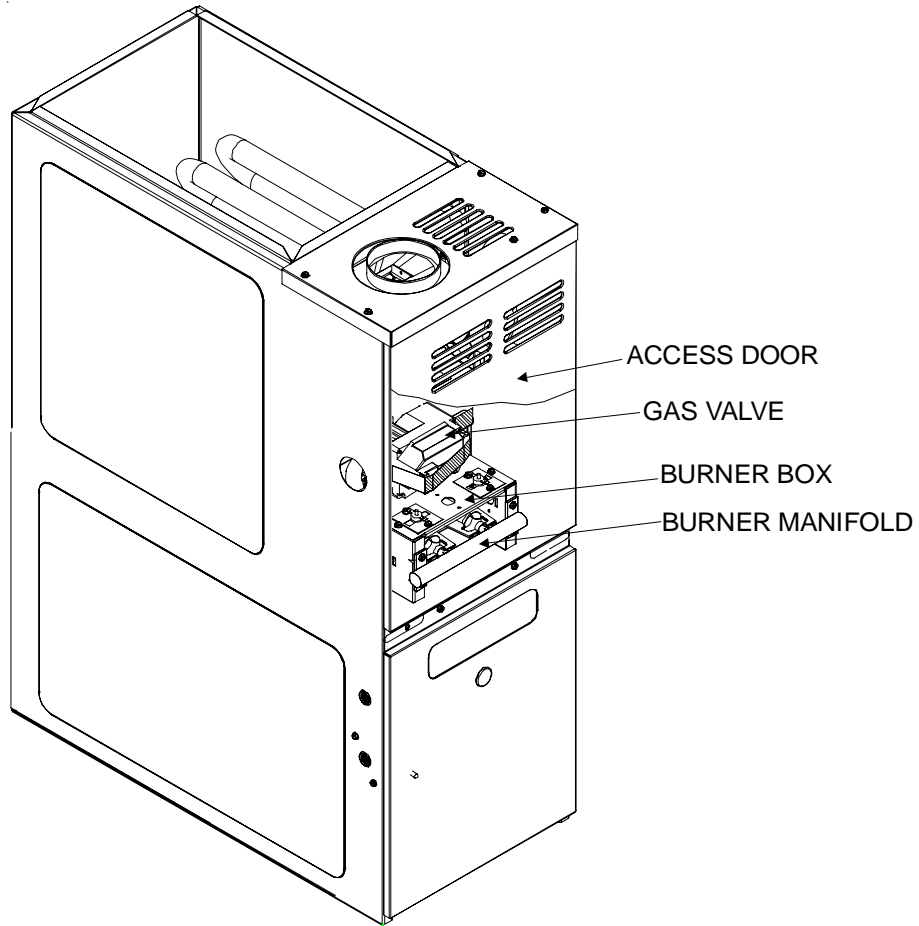

FIGURE 1
3. Remove the furnace control access door. See figure 1 for the location of these components.
5. Remove the (4) sheet metal screws which fasten the gas manifold to the burner box. See figure 1 for component location. On PGB series take care not to break the Hot Surface Ignitor on the pilot assembly.
8. **For 36G22 valve:** Using a 3/32" Allen wrench, loosen the inlet and outlet pressure tap screw one (1) turn only (DO NOT REMOVE). Attach a length of 5/16" hose to each of the pressure tap bosses. Connect the 5/16" hose to two (2) separate water manometers or other adequate gauges having a scale range of at least 0" to 15" of water column.